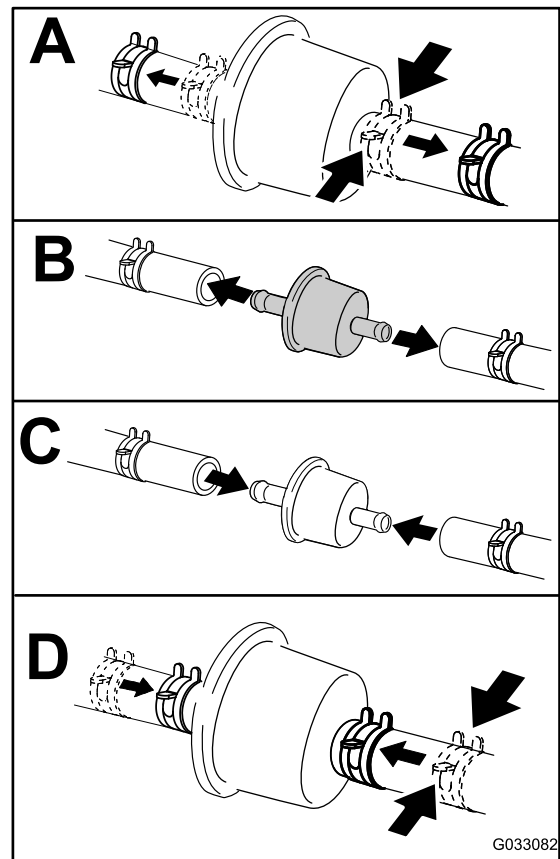

Figure 51
5. Replace the fuel filter (Figure 51).